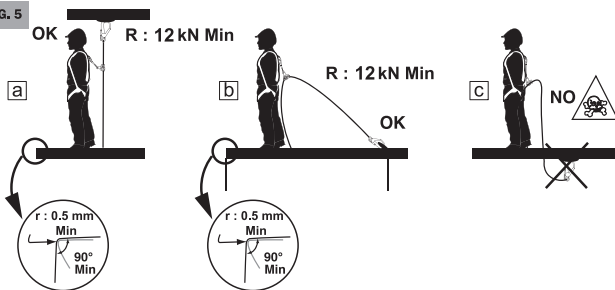

FIG. 6.1
21. Stopfor™ fall arresters must be used on a vertical belay support or with a maximum vertical angle of 30° or a maximum displacement of 3m from the vertical (see Fig. 6.2). They can be used in a horizontal position to work on terraces and not more than 1.50 m from the perpendicular to the ridge (see Fig. 6.1).